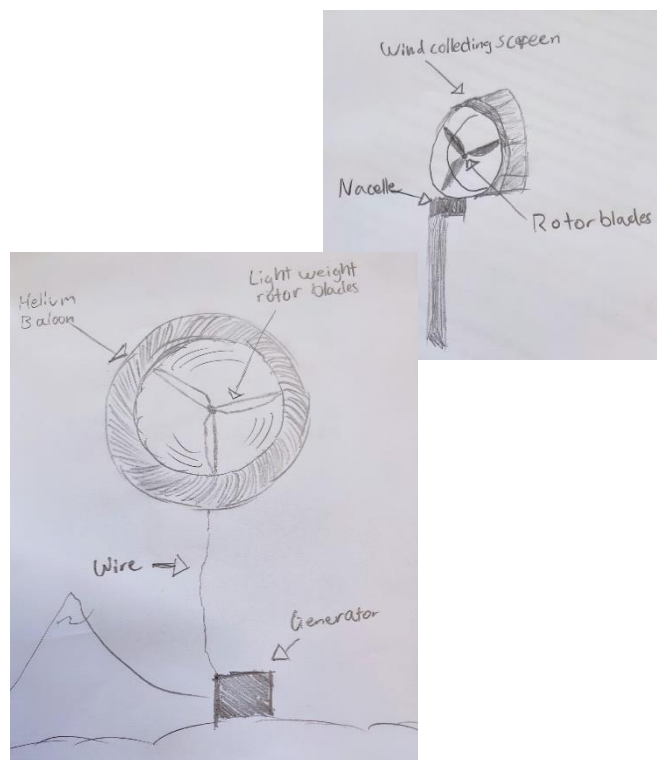

Figure 8: Examples of student designs of future wind turbines
- In groups, the students design a future wind turbine (see fig. 8) using new materials and the technological innovations previously discussed.